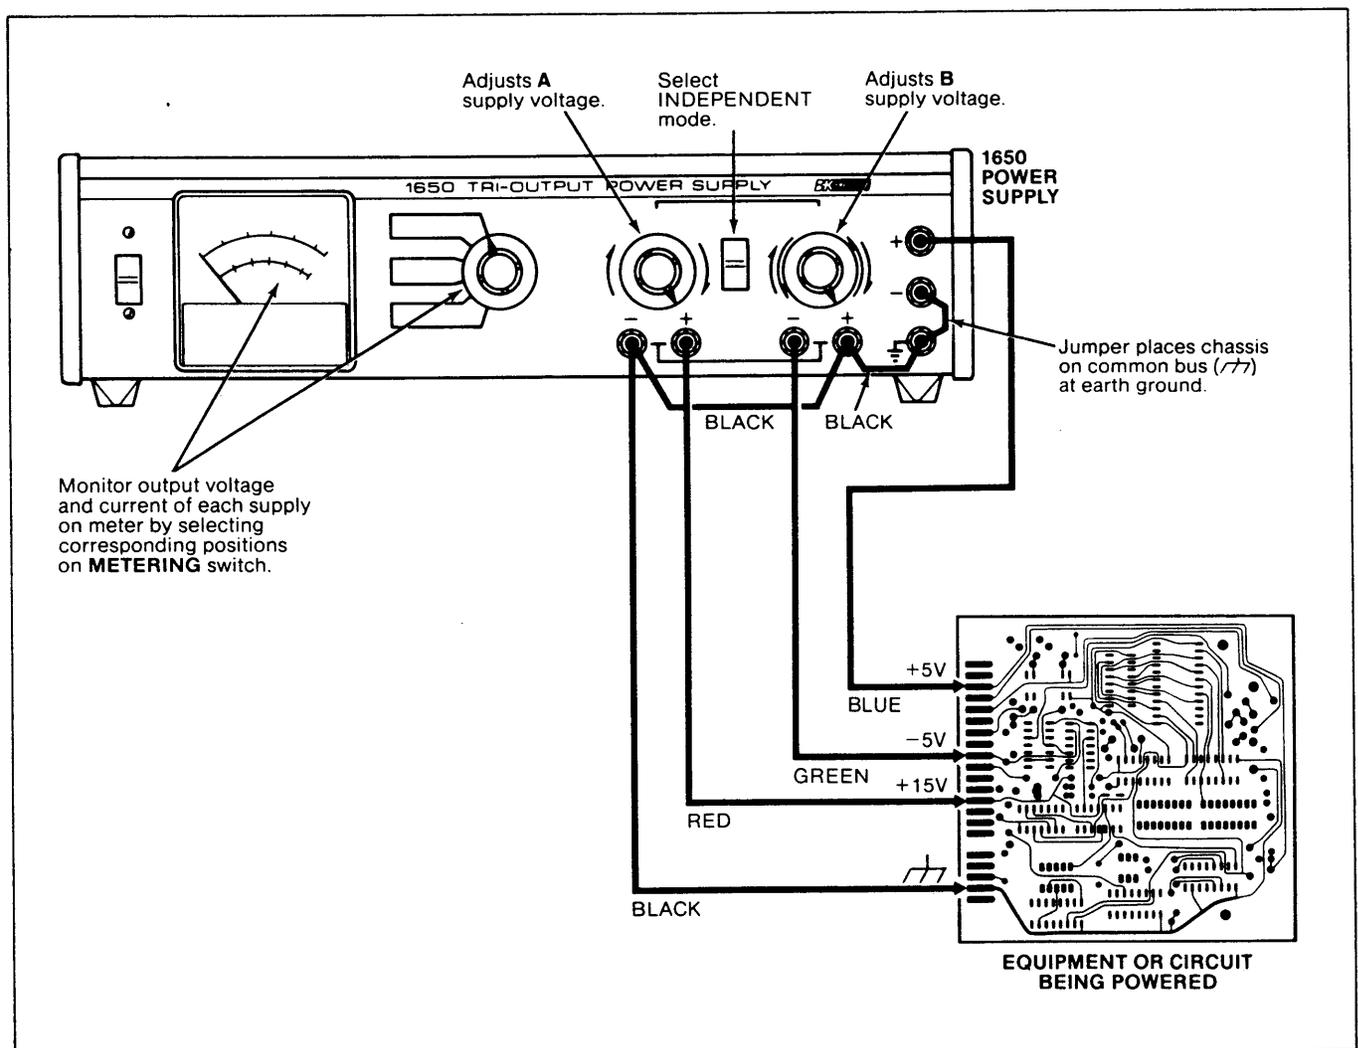

Fig. 8. Typical simultaneous use of three supplies.
Operation is virtually the same as combining the operation for each individual supply as previously described. However, when providing multiple voltages to a single circuit such as shown in Fig. 8, a few additional factors should be considered.
1. Each supply's output is floating and independent of the other supplies. The chassis or common bus of the circuit being powered must be connected to each of the supplies in use. Only one common lead from the circuit being powered to the power supply is required, if strapping or jumpering is used between the common terminals of the other supplies (see Fig. 8 for an example).